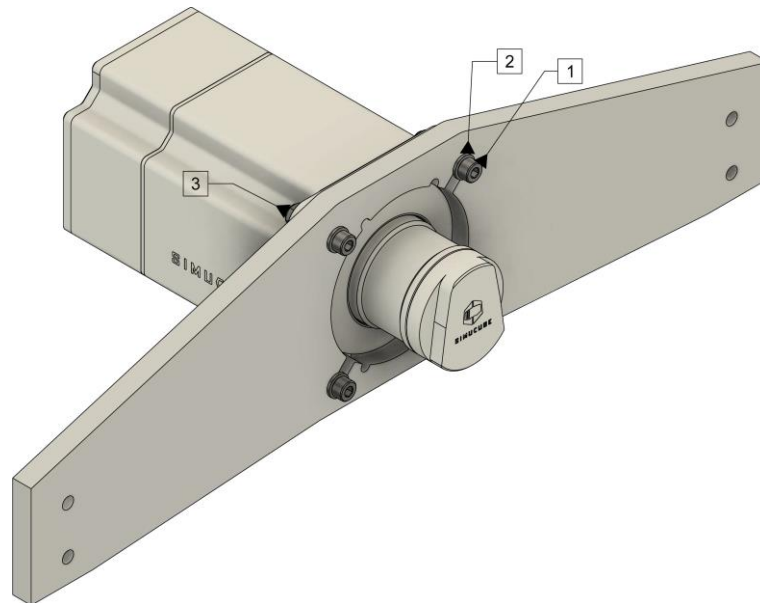

Figure 4 Mounting Simucube 2 on a simulator rig front mount bracket.
Simucube 2 can be mounted by utilizing a front mount bracket found on many simulator rigs as shown in Figure 4.
Mount Simucube 2 as shown in Figure 4. Sport and Pro models are mounted with 30mm M8 bolts with 1.25mm thread pitch (1) and M8 flat washers (2). Simucube 2 Ultimate is mounted through-the motor flange with 40mm M8 bolts (1), M8 flat washers (2) and M8 locking nuts (3).